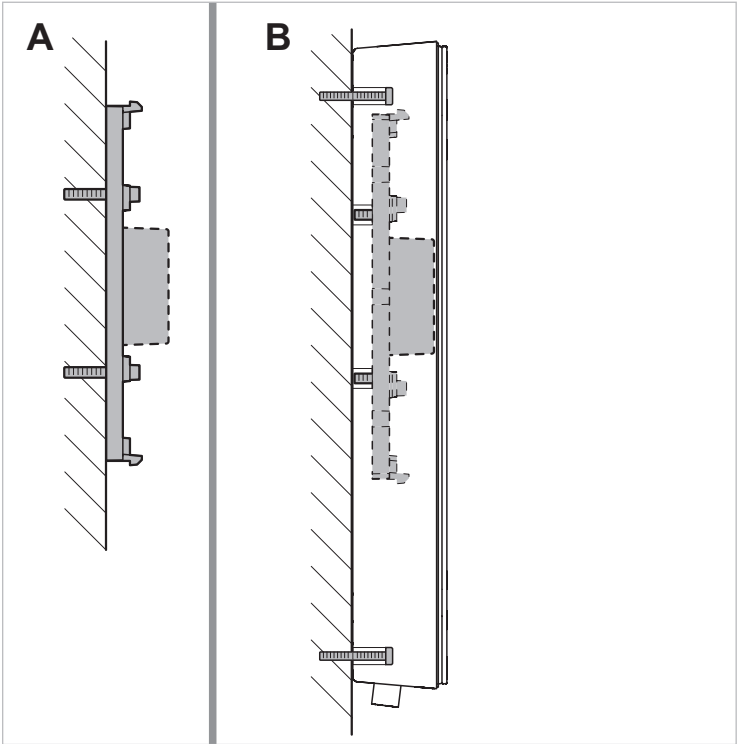
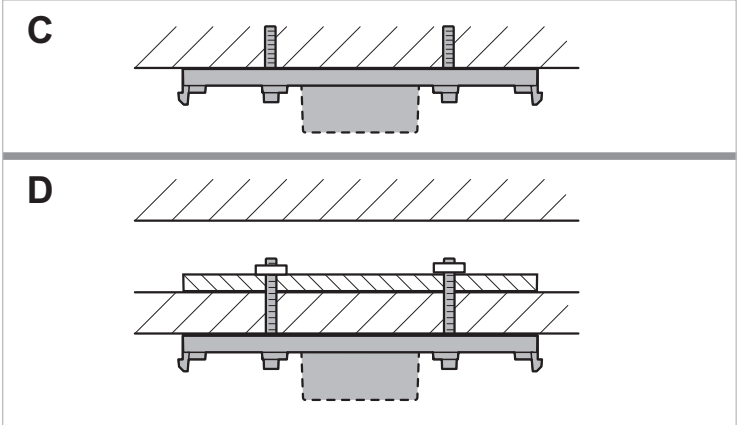

Fig. 11 Types of installation
Fig. 12 Types of installation
2. Attach the universal mounting plate with at least 4 screws depending on the type of installation selected (Fig. 11 and Fig. 12).
3. To screw the universal mounting plate on a drop ceiling (D, Fig. 12):